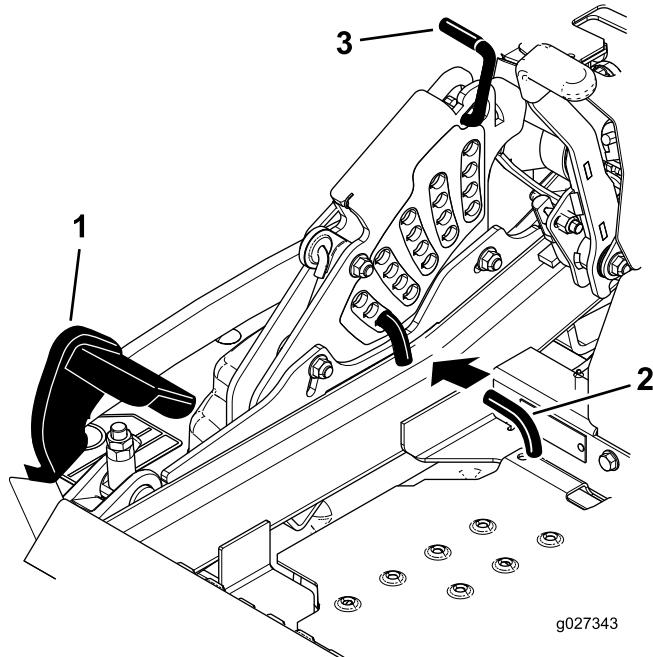

Figure 98
5. Push the deck-lift pedal all the way forward and the deck latches at the 14 cm (5-1/2 inches) transport position (Figure 98).